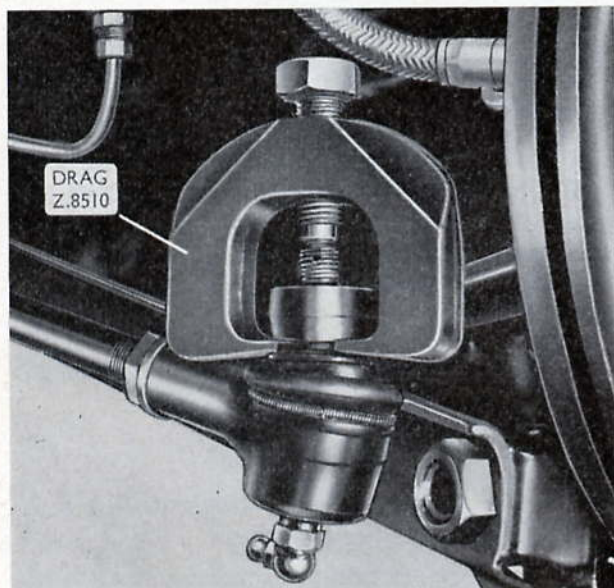

Fig. K.14. Drag positioned prior to disconnecting a steering connecting rod ball joint
2. Disconnect the connecting rod from the steering arm (Fig. K.14).